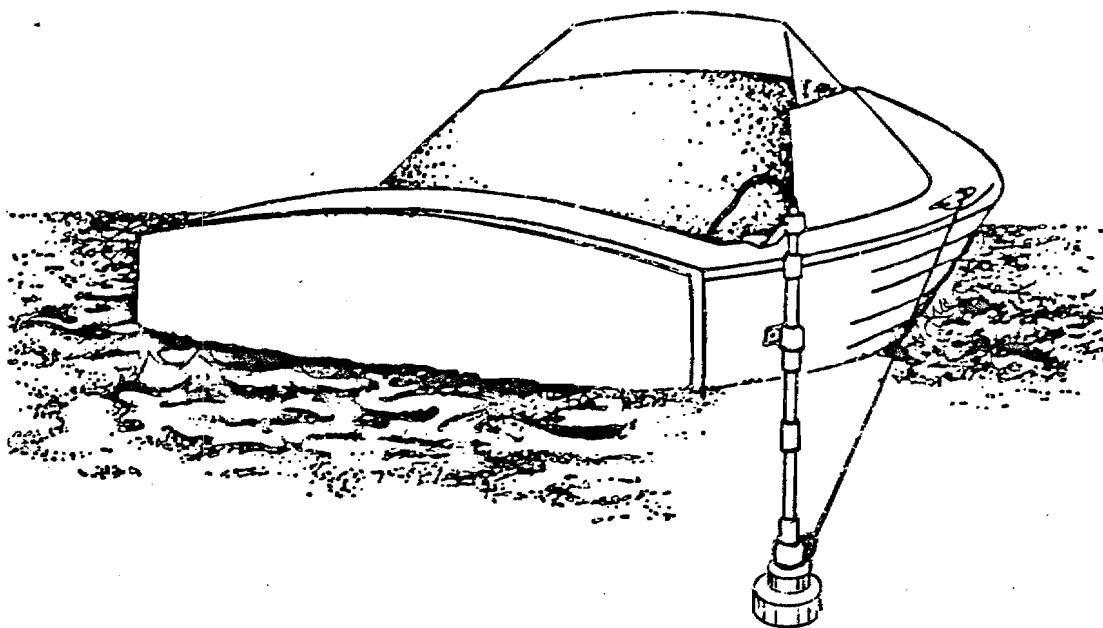

Figure 4-1 Typical Transducer Over-Side Installation
5. Clamp the assembled transducer and support tubes to the side of the boat (see Figure 4-1).